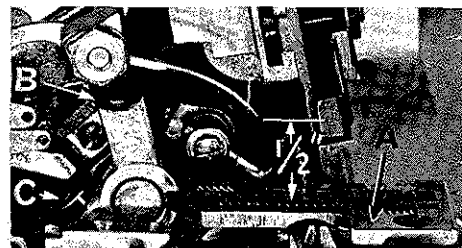

Fig. 3
With throat plate assembled in position, needle should center in the front end of needle slot. When needle is at high position, needle point should be set  $\frac{1}{2}$  inch above throat plate (A, Fig. 3) for Style 39500 FN;  $\frac{15}{32}$  inch for Styles 39500 FV, FX, GU and JX; and  $\frac{33}{64}$  inch for Style 39500 GP. To align needle or set the height above the throat plate, move needle driving arm (B, Fig. 3) by loosening clamp screw (C). Remove throat plate.